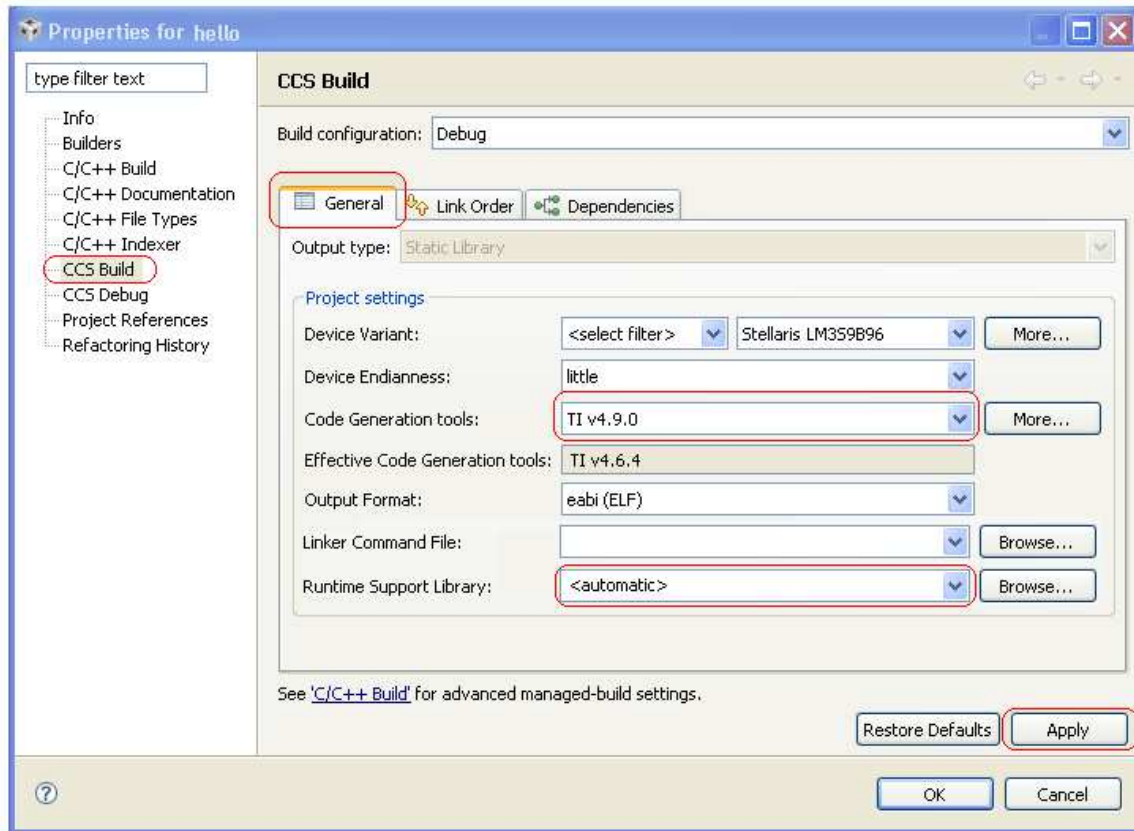

Figure 10. Properties for “hello”
2. Select Properties to open the Project properties window as shown in Figure 10.